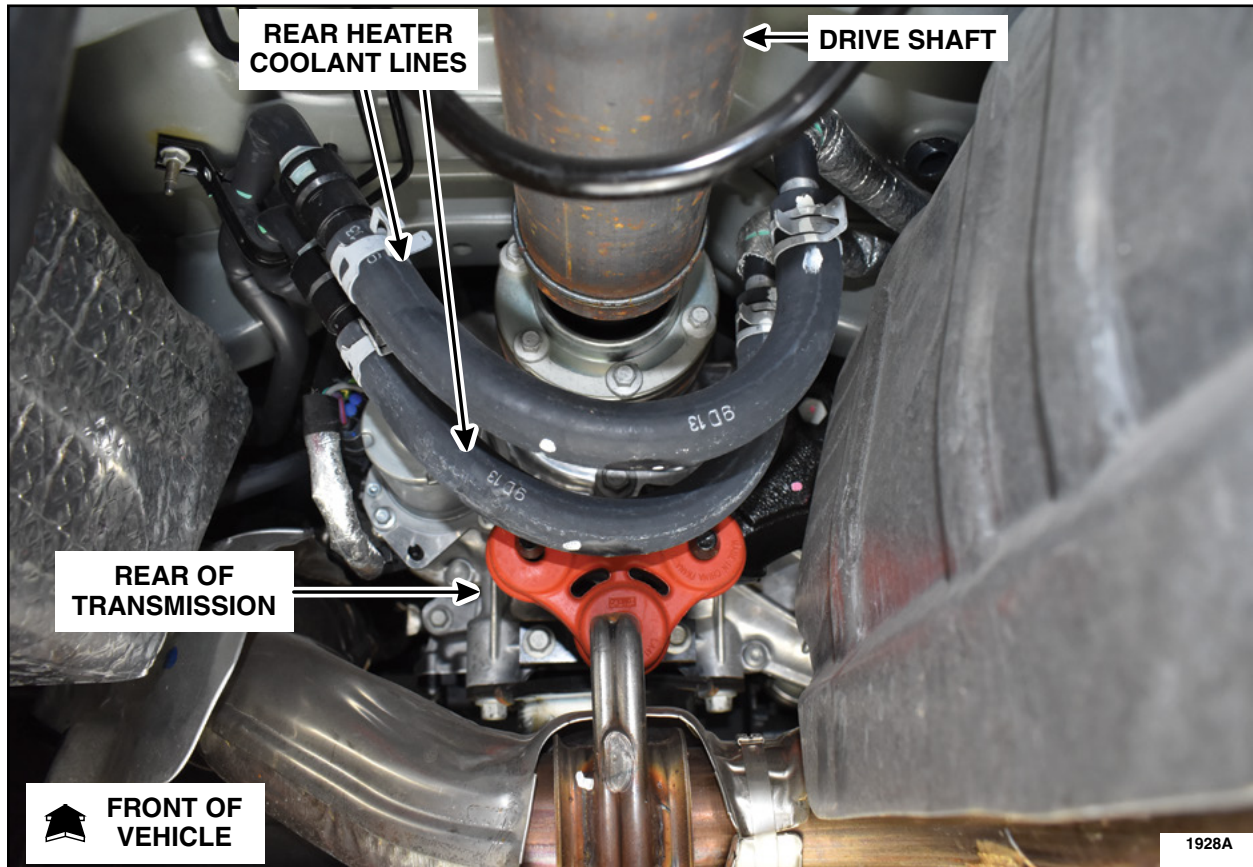

FIGURE 1
2. Locate the rear heater coolant lines at the rear of the transmission. See Figure 1.